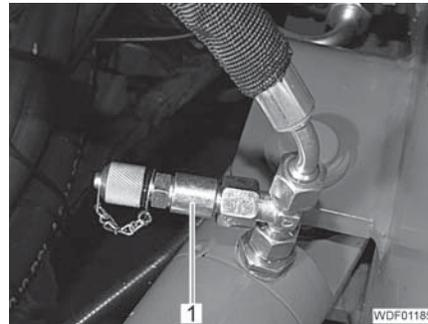

Fig. 24 Test connection
- Install the T-screw connection with the test adapter (Fig. 24,1) in the base hydraulic line of the steering cylinder.